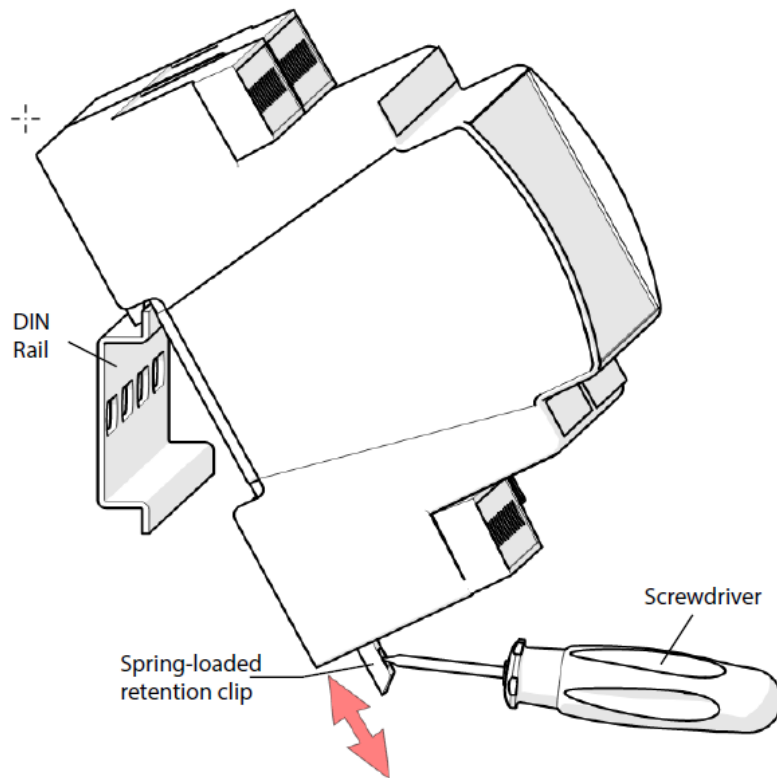

Figure 6. Engage the DIN rail and pull the retention clip
1. Engage the slot at rear of unit to the upper edge of DIN rail. Refer Figure 6.